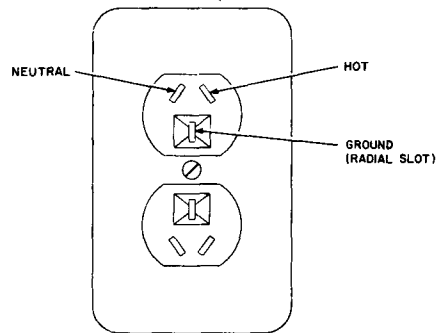
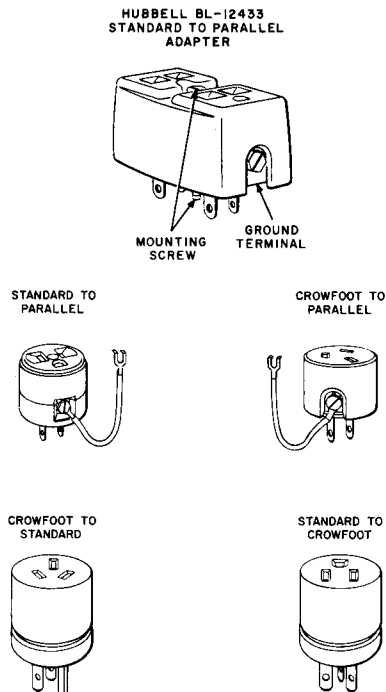

Fig. 2 — Crowfoot Receptacle
Fig. 7 — Adapters
3.05 The crowfoot receptacle has three slots. Figure 2 designates the function of each slot. The cord connecting to a crowfoot plug also uses the same white, black, and green coding as the standard plug. When only the crowfoot receptacle is available and the tool cord has a standard plug, a standard-to-crowfoot adapter (Fig. 7) must be used.
3.08 The receptacle adapters shown in Figure 7 permit connections when the outlet receptacle is not the same type as the plug.